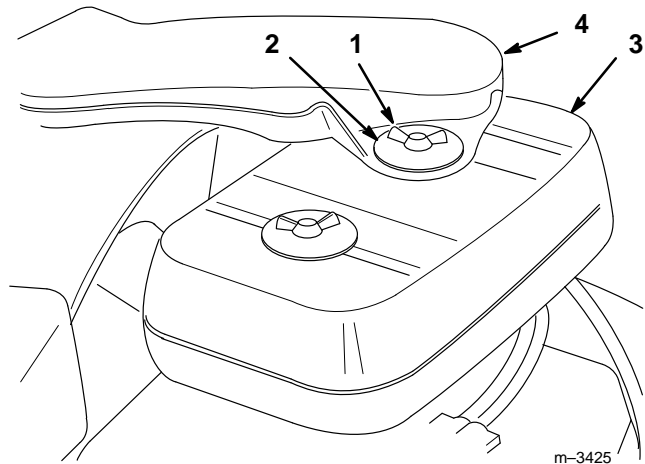

Figure 23
3. Clean around the air cleaner to prevent dirt from getting into the engine and causing damage (Fig. 23).
4. Remove the wing bolts, washers, air intake duct, and air cleaner cover (Fig. 23).